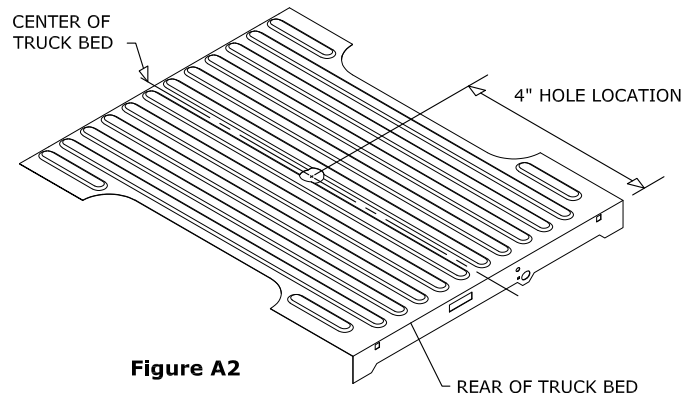

Figure A2
6. **Mark the 4" hole location.** Using a tape measure hooked over the rear edge of the bed (at tailgate end), measure the location for the hole as shown in figure A2. Next, locate the center of the bed by measuring the distance between the wheel wells and dividing by two. The center of the hole will be at the intersection of the center of the bed and the first distance measured.